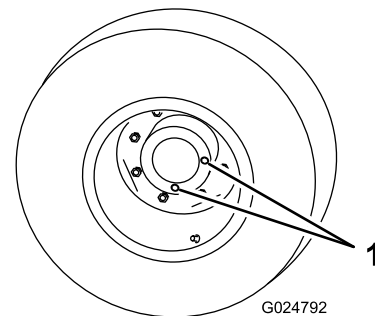

Figure 73
1. With machine on level surface, position a wheel so one of the check/drain plugs is at the lowest (6 o'clock) position (Figure 73).